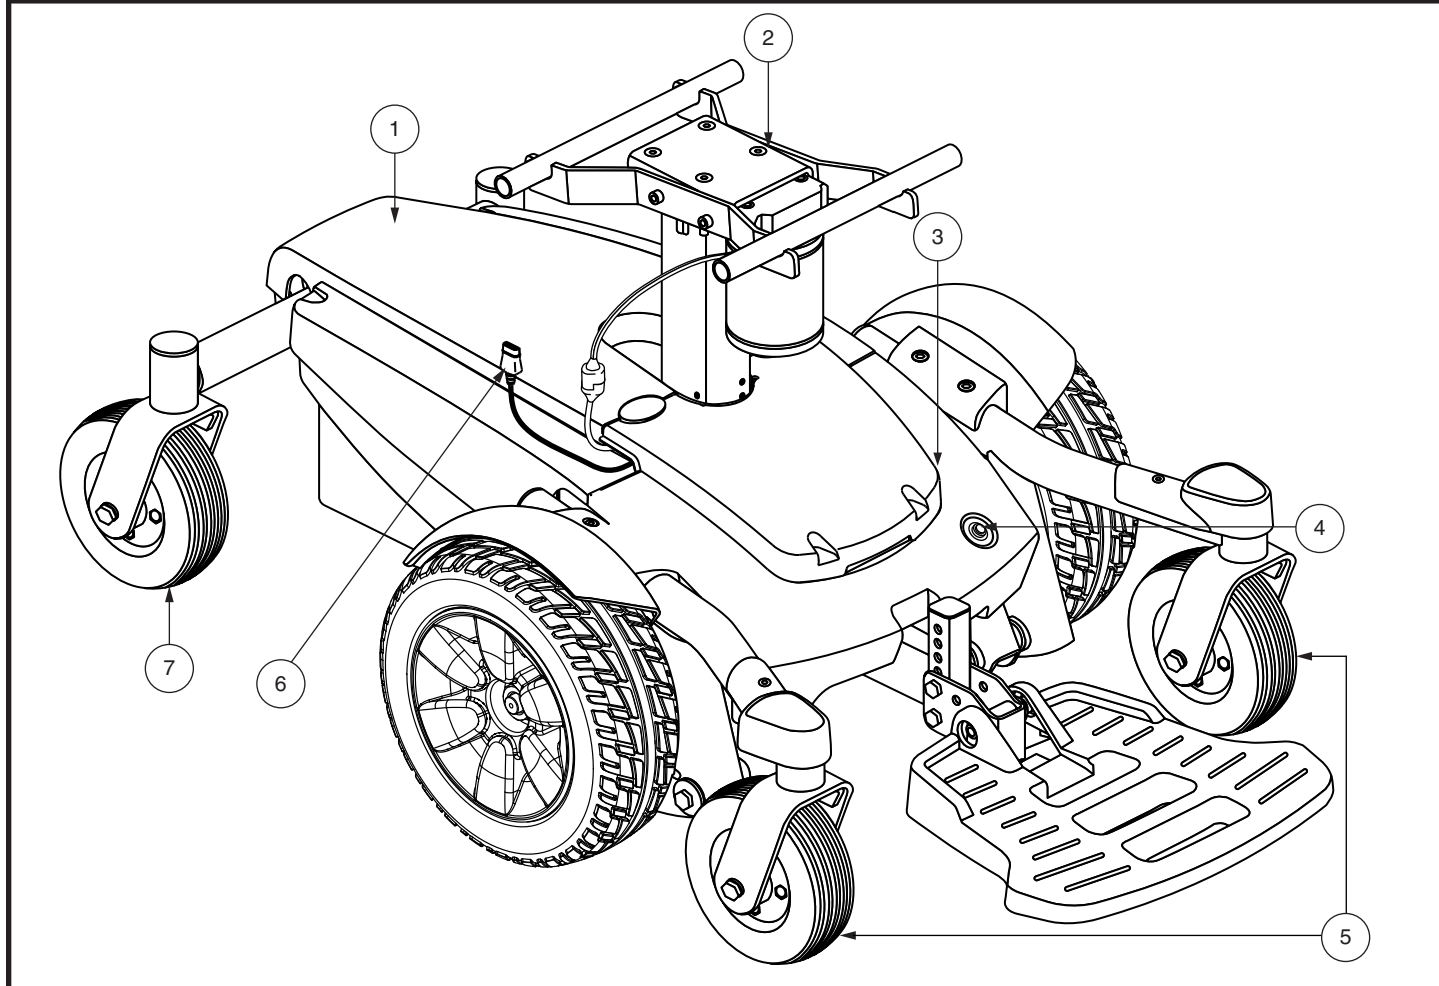

Figure 4. The Jazzy Select 6 with Power Seat Power Base
6. Plug the controller harness into the connector on the power base. See figure 4.